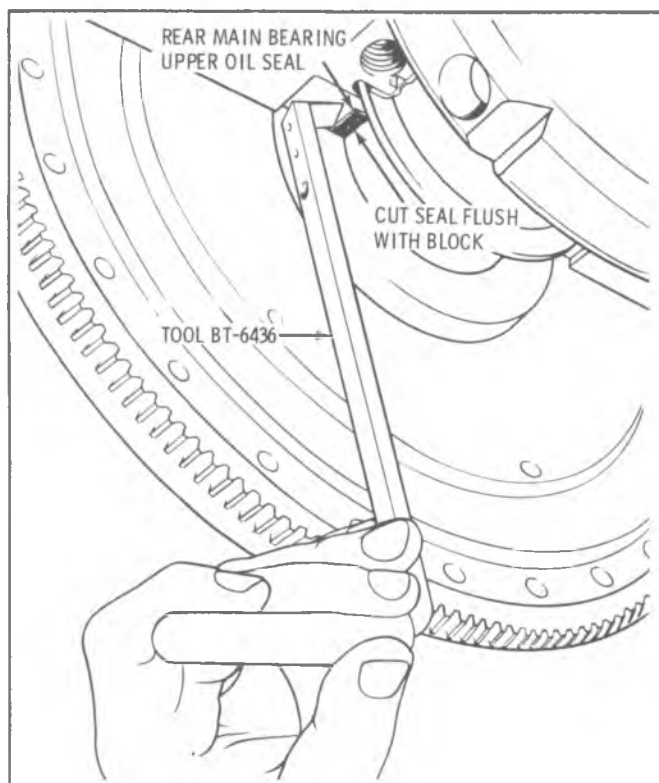

Fig. E-98—Cutting Off Upper Seal Ends
6. Work these two pieces of seal into the cylinder block (one piece on each side) with two small screwdrivers. Using Packing Tool, pack these short pieces up into the block. Use Seal Trimming Tool BT-6436 to trim seal flush with block as shown in Fig. E-98.